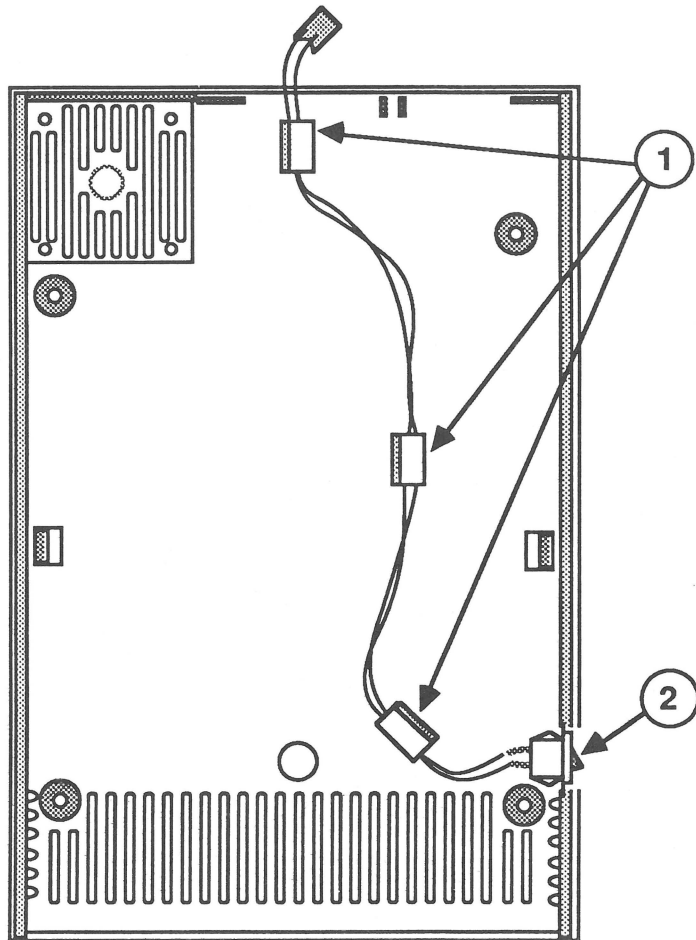

FIGURE 4
4. Slide the power switch cable out through the open side of each of the cable retaining clips (Figure 4, #1). If the cable will not slide out from a clip, use a screwdriver to carefully pry the clip up while you slide the cable out.
5. Lift the power switch (Figure 4, #2) up and out of the case.
1. Position the power switch so that the 1 is on the left and the 0 is on the right. Insert the power switch into its slot in the case (Figure 4, #2).
2. Slide the power switch cable in through the open side of each of the cable-retaining clips (Figure 4, #1). If the cable will not slide into a clip, use a screwdriver to carefully pry the clip up while you slide the cable in.